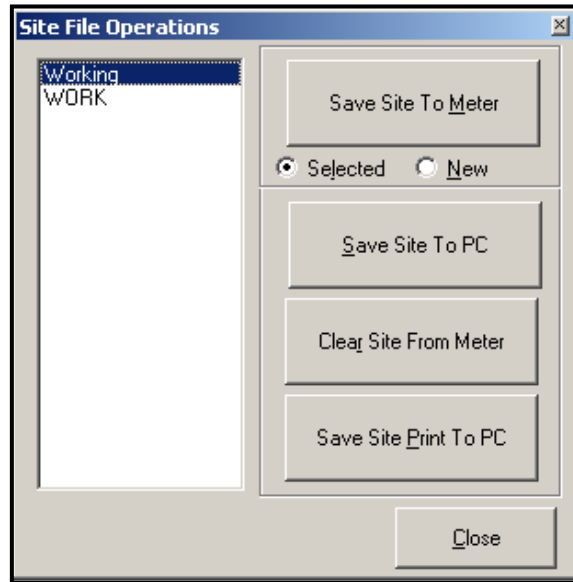

Figure 49: Site File Operations Window
- 3. Click on the [Site Files] button. The *Site File Operations* window (shown in *Figure 49*) opens.
3. The *Site File Selection* window (*Figure 49 on page 130*) opens. Highlight a site file with the desired settings, and click [Open]. The site file becomes the *Working* site in the meter with the desired settings.
1. Highlight the desired site in the left pane. (See *Figure 49 on page 130*.)
1. Highlight the site in the left pane. (See *Figure 49* on page 130.)